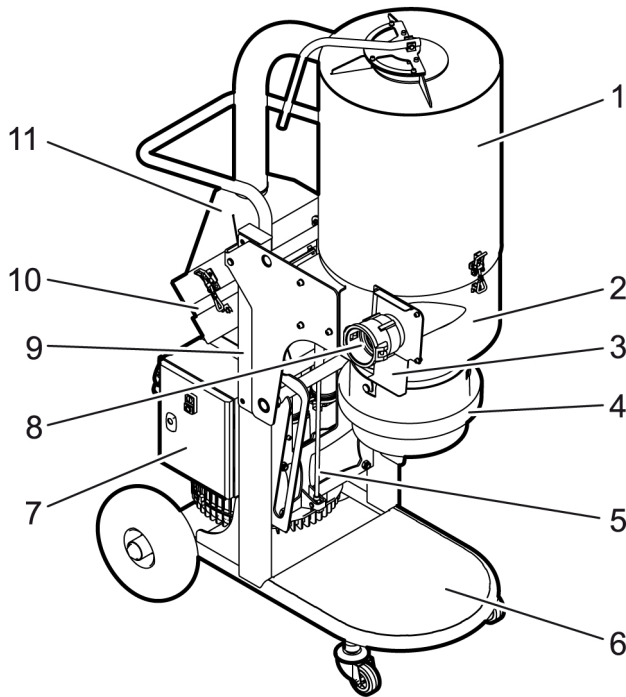
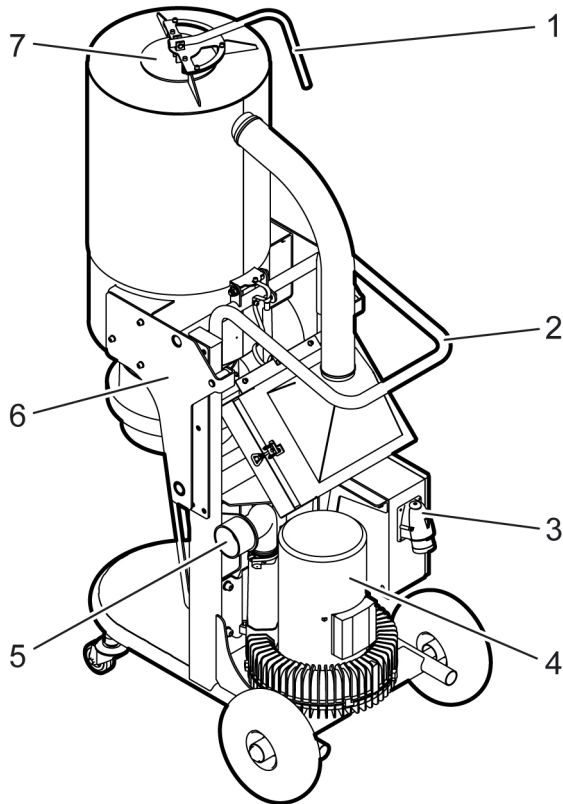

Figure 3-1. The front of the dust extractor
Figure 3-2. The back of the dust extractor
VCE4000P is constructed from a number of main components, such as chassis, electrical cabinet, etc, see *Figure 3-1, page 8* and *Figure 3-2, page 9*. Several different designs are available, adapted for different markets. For model variants, see the table in *Technical data, page 32*. The dust that is vacuumed up is captured in a Longopac bag, which can be sealed when the desired quantity of dust has been reached.
1. Using a suitable camlock coupling, fasten the ventilation hose to the outlet for ventilation hose connection, see Figure 3-2, page 9. Contact TYROLIT Hydrostress® for recommended couplings or consult the Product Catalogue.